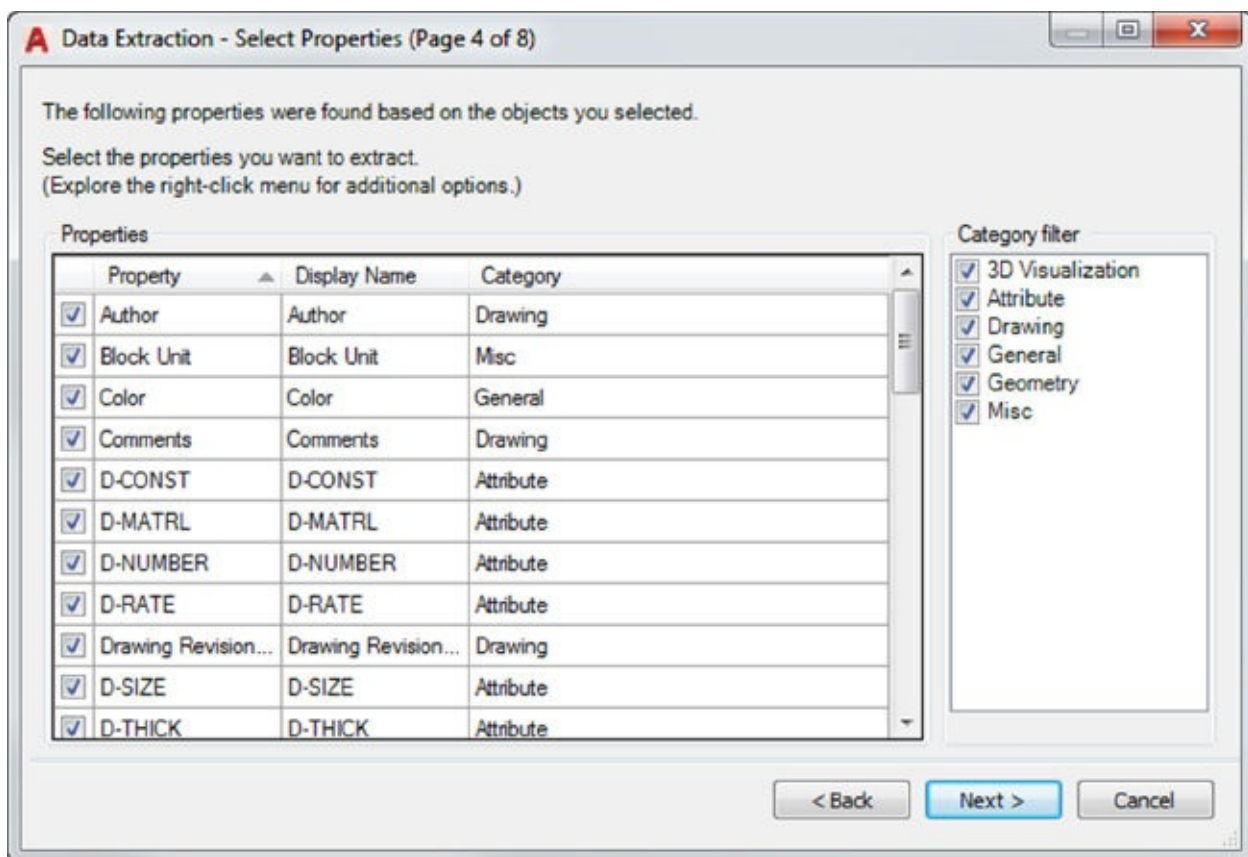

FIGURE 12.18 The Select Properties page
4. Click Next to open the Select Properties page (see Figure 12.18), which displays a list of the different types of data available for extraction.